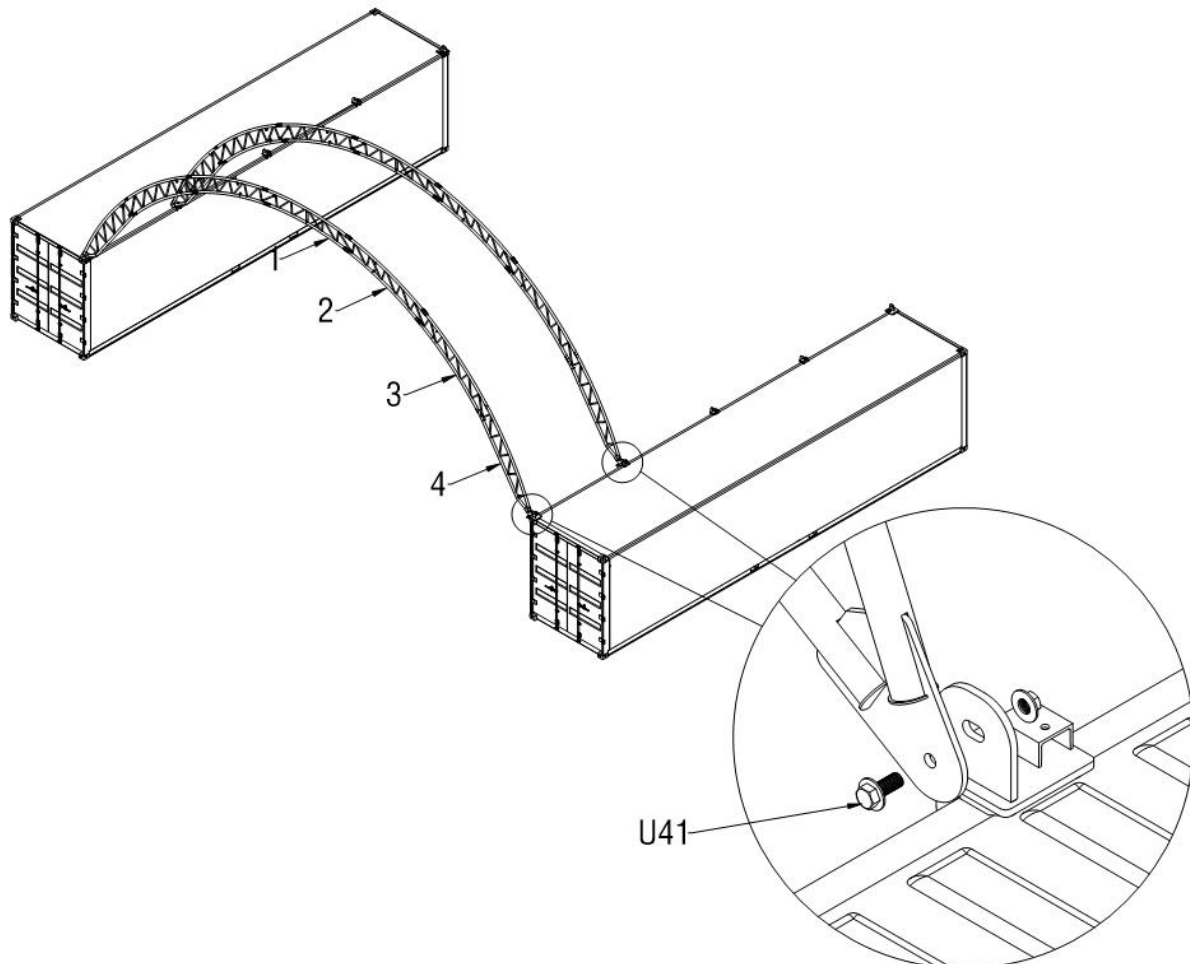

Figure 6
2.3 Lift an assembled arch onto one base plate and connect the arch with the base plate by using Bolt M20x60mm(Part no.U41), and force the other end of the arch onto the opposite base plate by same way as Figure 6 shows.